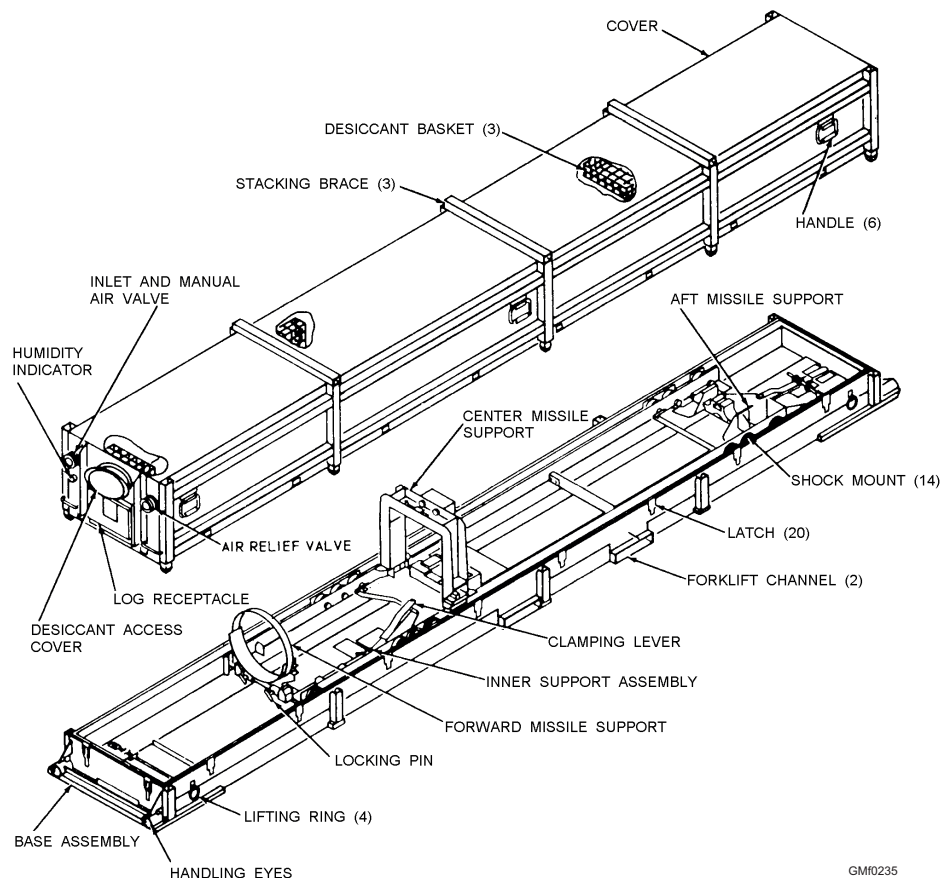

Figure 2-35.—Mk 372 Mod 5 container for Standard MR missiles.
1. Mk 372 container – Standard missiles (SM)
MK 372 CONTAINER.—The Mk 372 Mod 5 container is used to ship and stow medium range (MR) Standard missiles (fig. 2-35).